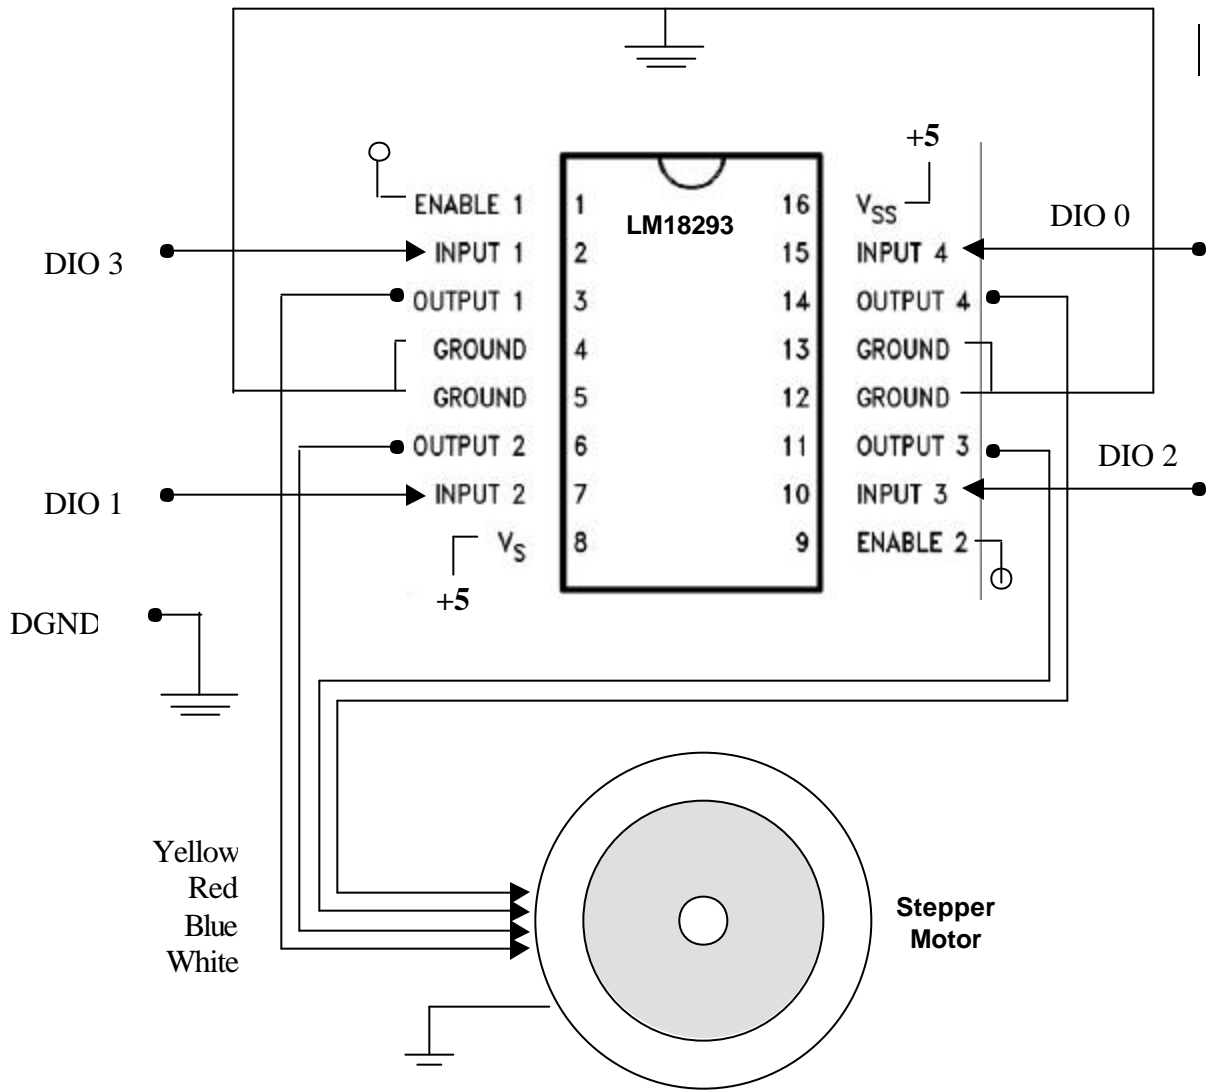

Figure 4 – Connection Schematic
- f. A Quotient and Remainder VI. This will be used to wrap the index over the 8 elements of the array. You will use it to divide the output of the adder in “e” with a constant integer (8), and take the Remainder as the actual index to the array.
- g. A Write To Digital Port VI to send the value obtained from the array to the digital port of the 6024E. Configure the output so that you send to Port 0 (PA) of device 1 (6024E). The default port length is 8 but we are using only 4 bits (the least significant bits of the word).
4. After finishing your code save it to the floppy disks. Next, you need to connect the DAQ digital output pins with the motor and the current driver IC. Follow the connections in the diagram in Figure 4.